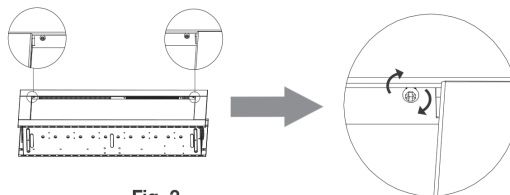

Fig. 3
- G. Secure appliance to the brackets using 4 fasteners (supplied) and the slots from the appliance (Fig. 3).
- D. Install the small end of the strain relief into the new cover plate (supplied) using the screws previously removed in step A (Fig. 3).
- C. Secure trims by tightening the securing fasteners (**Fig. 3**).